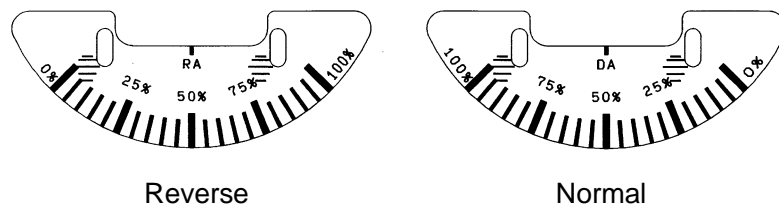

Fig.24 Scale plate
- (1) Perform adjustment of zero span in positioner before installing the positioner to either face of DA or RA with consideration of operating direction. (Refer to Fig. 24.)